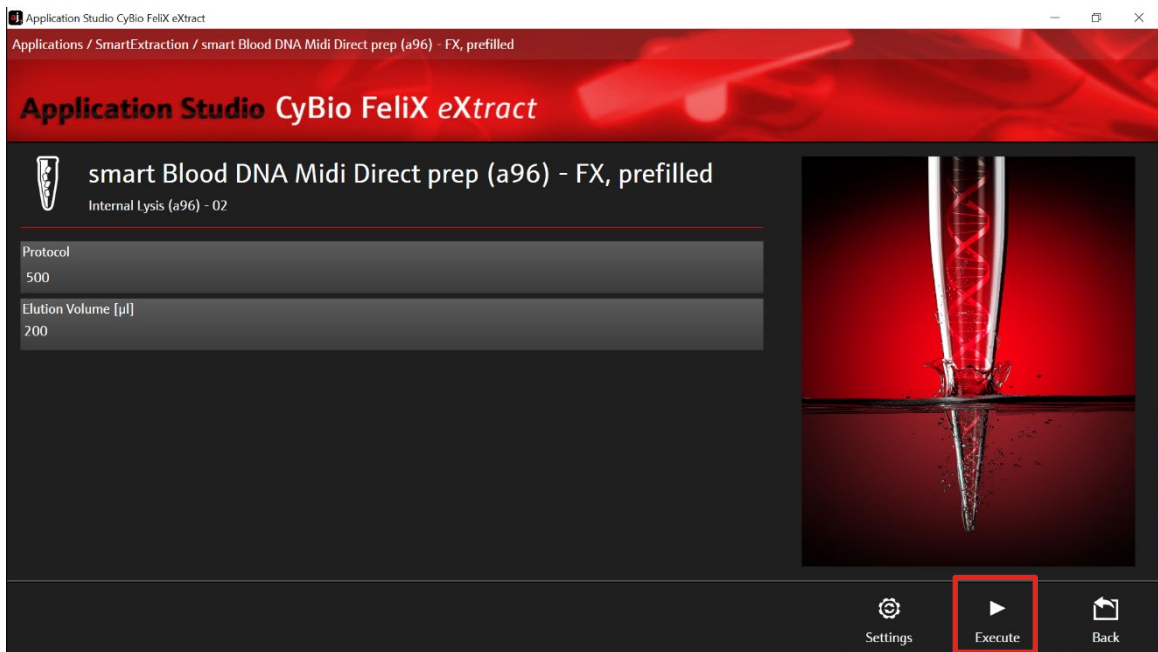

Figure 7: Selection of sample volume (500 µL) and elution volume (variable).
7. Select the protocol for up to 500 μL sample volume and adjust the elution volume between 150-500 μL . Start the protocol by clicking "Execute" (→ see Figure 7).